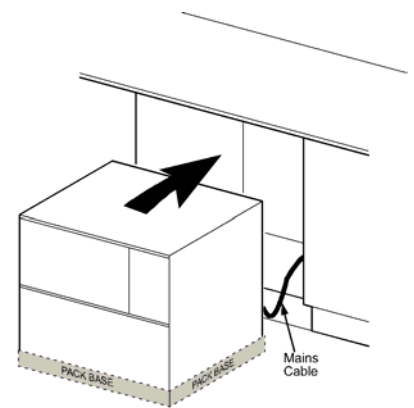

Fig. 12
- Position the appliance in front of the cabinet. See Fig. 12.